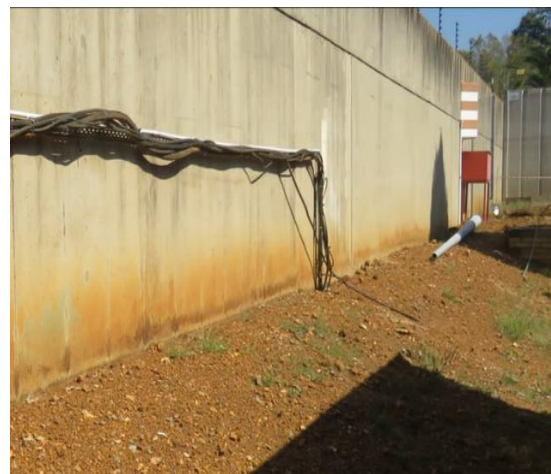

Figure 3 Fire Emergency Box (Left); Loose Electrical Cabling (Right)
- 1.2.1.5 Removal of obstructions on the determined piping route along the wall. This includes 2 x fire emergency boxes which shall be removed and installed elsewhere on site (allow for 1m x 1m x 100mm concrete base and bolt box down). There is a clear view fence of which a hole shall be cut to make way for the piping and corrosion protection coating shall be applied on the cut section of the fence. There is also loose electrical cabling present which TPL personnel shall rectify and re-organize. See figure 3 below for image of the obstructions.